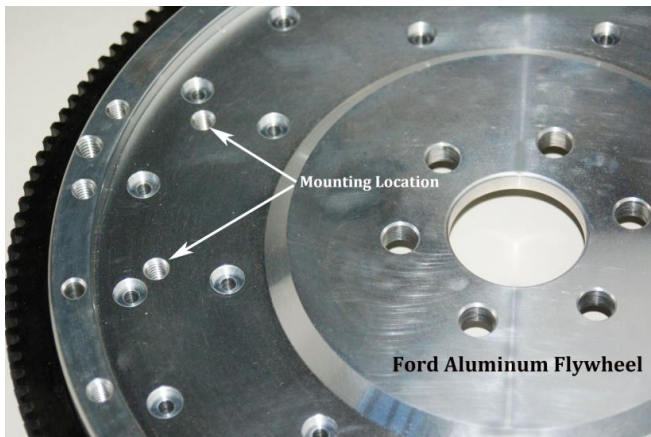

Figure 1
**Ford Engines: One weight position.** See Figure 1 & 2 **Long screws must be used on Aluminum Flywheels!**